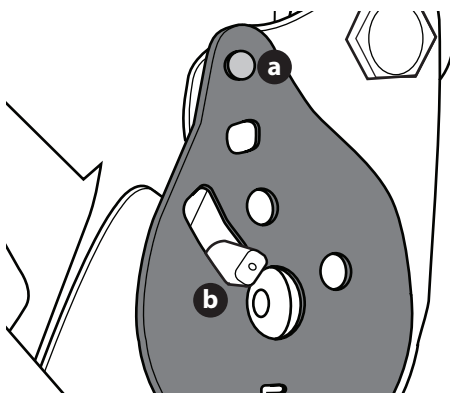

Fig. 12
6. Tilt the seat forward into the full forward position. Replace the recliner plate with the clinch-stud (a) and the recliner pin (b) passing through the recliner plate in the locations shown in Fig. 12.